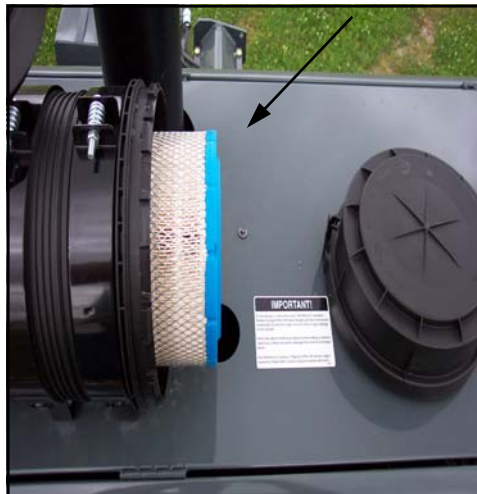

FIG 7.22
**REMOVAL** - The engine air intake filter element should only be removed if it is going to be replaced. After loosening the air cleaner clamp and removing the end cap, carefully remove the filter so as to not knock any dust off the filter and into the air intake passage (fig. 7.22).